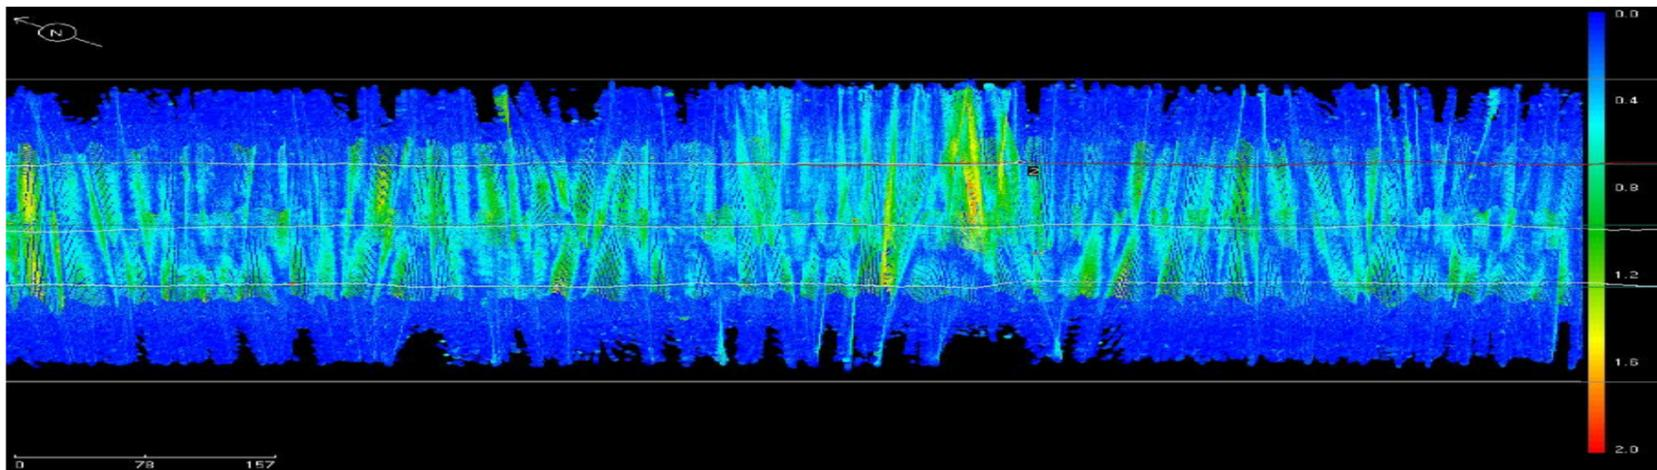
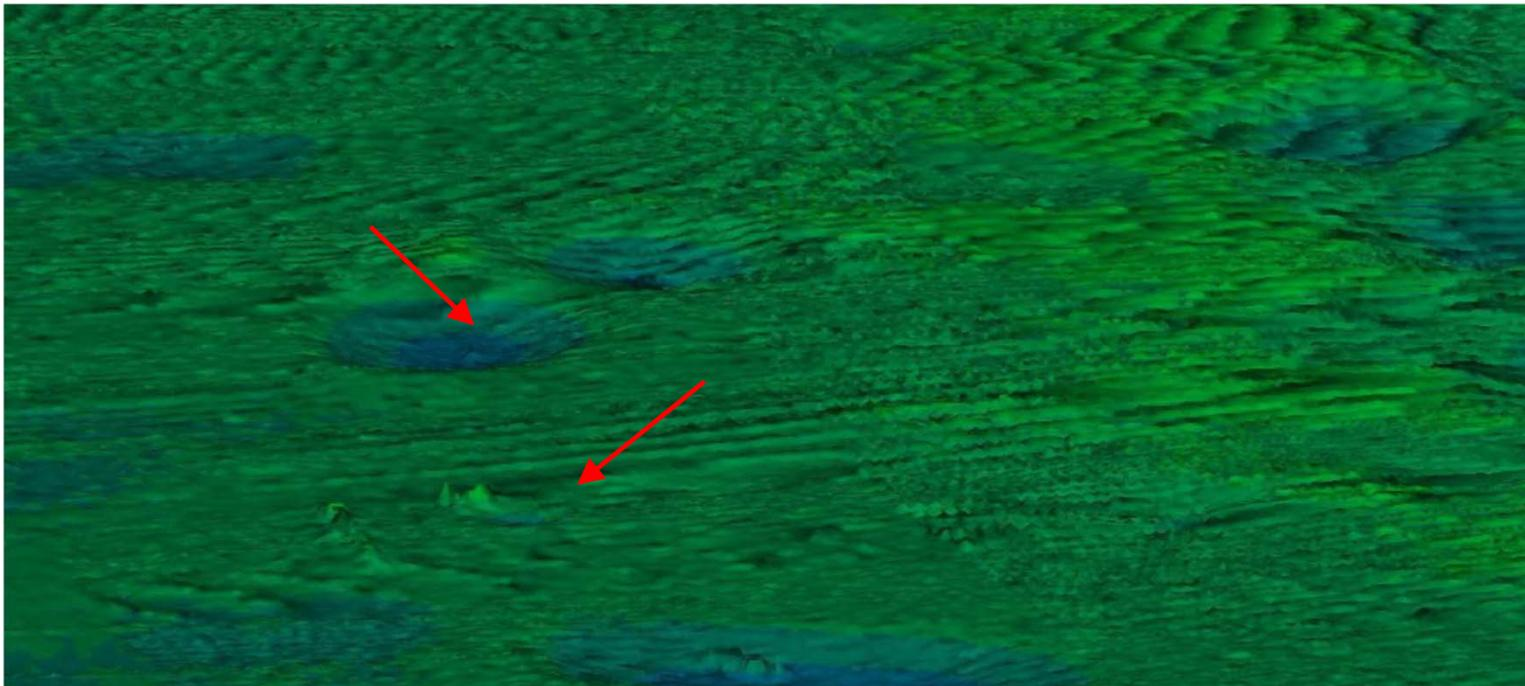

Figure 2. Multibeam Survey In Choppy Seas
Figure 3. Effect of Head Seas on Bottom Irregularity
## Figure 2 illustrates what happens to a multibeam survey performed with a state-of-the-art multibeam system in choppy seas
- Figure 3, like Figure 2, shows how steep, head-on seas produce an irregular bottom that resembles the sea surface.